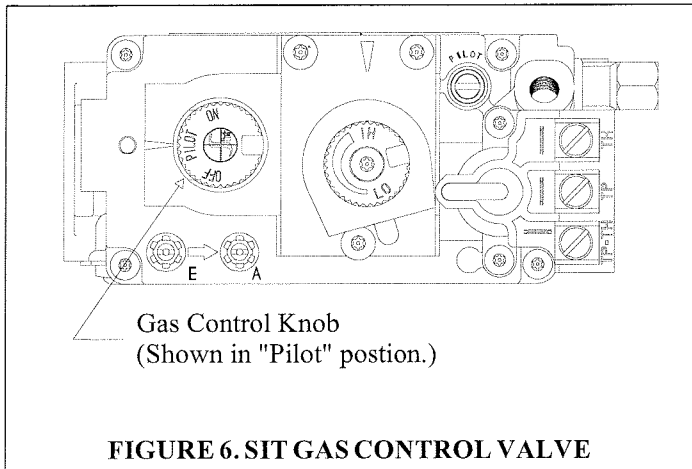

FIGURE 6. SIT GAS CONTROL VALVE
The **Montigo 36PFC** is equipped with a remote-operated valve, located behind the removable grille. 10 Ft. of low voltage wire is supplied with the fireplace, simply mount a wall switch and connect low voltage wire. (Refer to **Figure 6**) The circuit is pre-wired and has a completely self-contained millivolt electrical system: **DO NOT** connect any external power to it.
- Have the fireplace installation inspected yearly, including a visual check of the vent system, the burner and the pilot flame. For your convenience a 1/8" manifold pressure tap is supplied on the gas valve for a test gauge connection. See Figure 6.